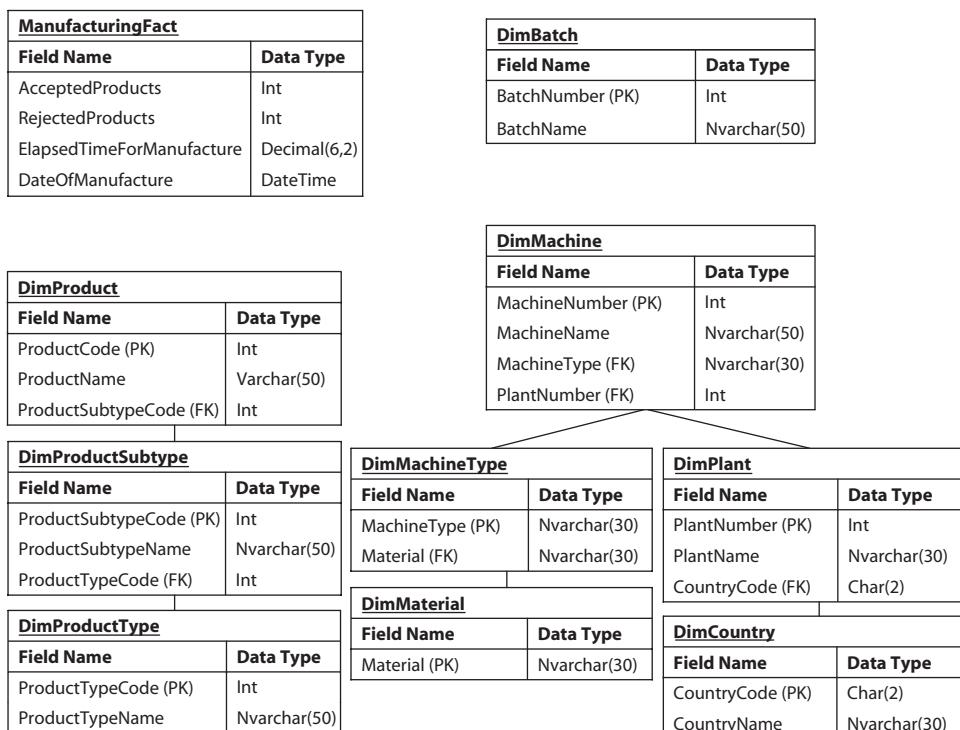

Figure 6-16 The Manufacturing data mart schema with hierarchies added
15. Create the dimensional hierarchies by adding foreign keys to the dimension tables. This is shown in Figure 6-16.